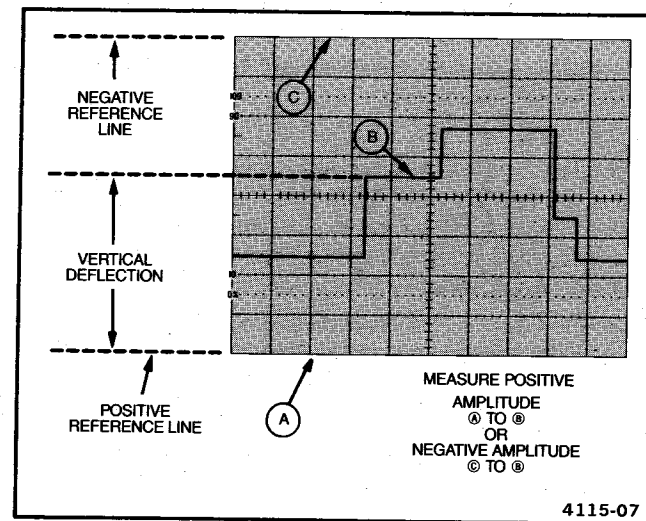

Figure 3-2. Instantaneous voltage measurement.
- Measure the divisions of vertical deflection between the ground reference line and the point on the waveform at which the level is to be determined (see Figure 3-2).
EXAMPLE. In Figure 3-2, the measured vertical deflection from the reference line is 4.5 divisions, and the waveform point is above the reference line. A 10X attenuator probe is being used, and the VOLTS/DIV switch is set to 2 V (10X PROBE).